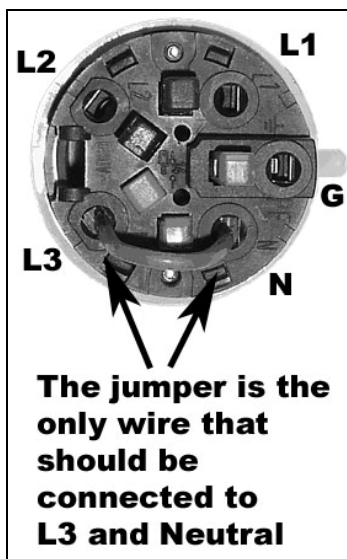
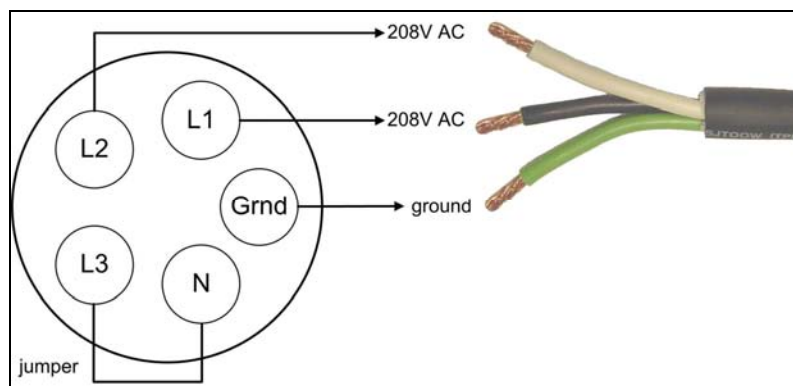
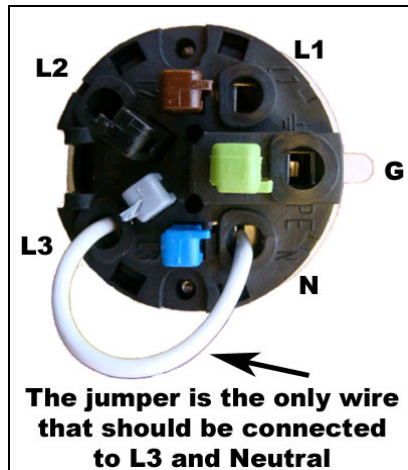
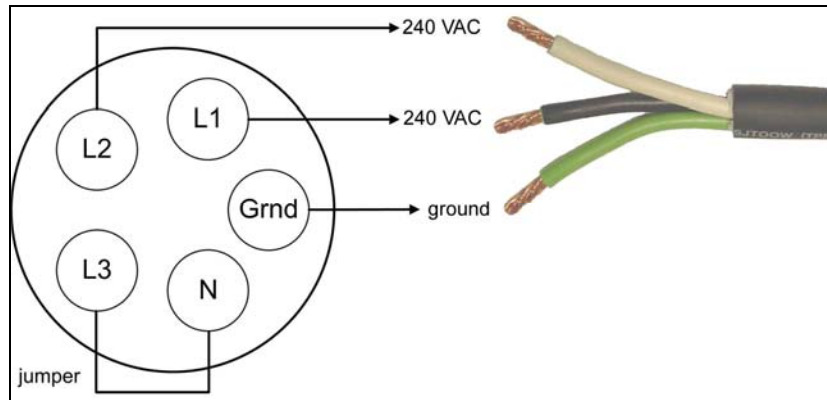

Figure 3: Pin side of 208-VAC receptacle insert.
Figure 4: 208-VAC receptacle insert wiring diagram.
Figure 5: Pin side of 240-VAC receptacle insert.
Figure 6: 240-VAC receptacle insert wiring diagram.
6. For 208-VAC systems, insert the wires into the receptacle insert slots shown in Figure 3 according to the wiring diagram shown in Figure 4. For 240-VAC systems, insert the wires into the receptacle insert slots shown in Figure 5 according to the wiring diagram shown in Figure 6.